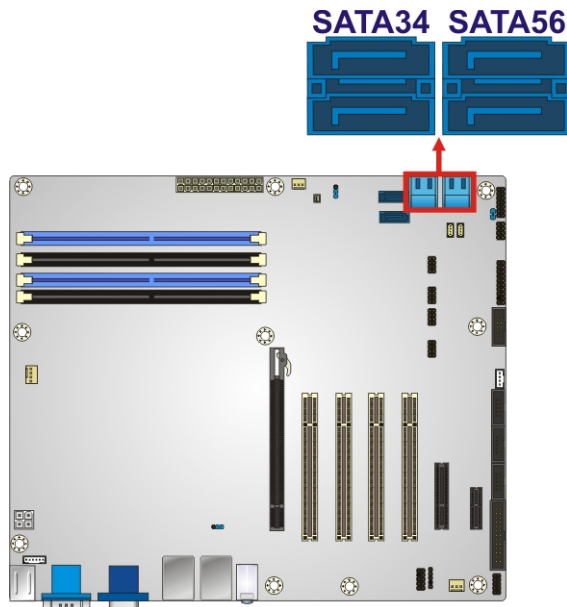

Figure 3-18: SATA 3Gb/s Drive Connector Location
- CN Location:** See **Figure 3-18**
CN Location:	See Figure 3-18